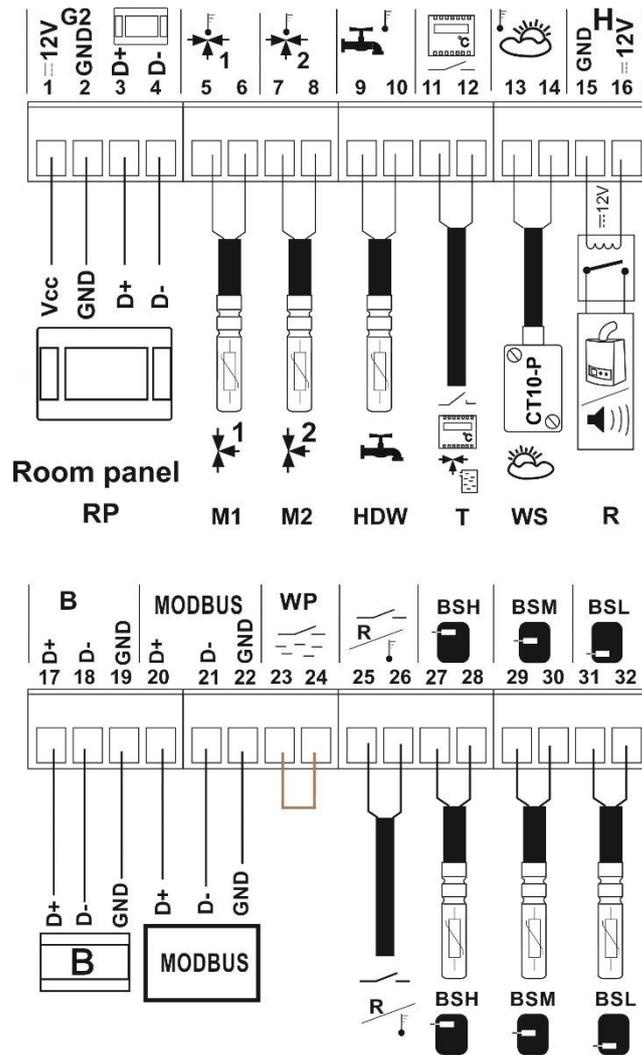

Figure 23. Wiring diagram of sensors and room panel
Connect the appropriate external sensor to the corresponding terminals on the switchboard (see Figure 23) and place the measuring element at the desired location in the heating system. The sensor cable must not be in contact with hot surfaces of the boiler or heating system and must be secured against pulling out.
The sensor is connected by a cable with a minimum cross-section of 0.5 mm2, maximum 25 m long. The polarity of the wires is not important. Connect the free end of the cable to terminals 13-14 (see Figure 23) on the left wall of the controller cabinet.
- connect the Mixer temperature sensor on the left wall of the controller cabinet (see Figure 23)
Connect the thermostat to terminals 11-12 (Figure 23) on the left wall of the controller cabinet. After installation, the room thermostat needs to be enabled in the menu to control the mixed heating circuits: